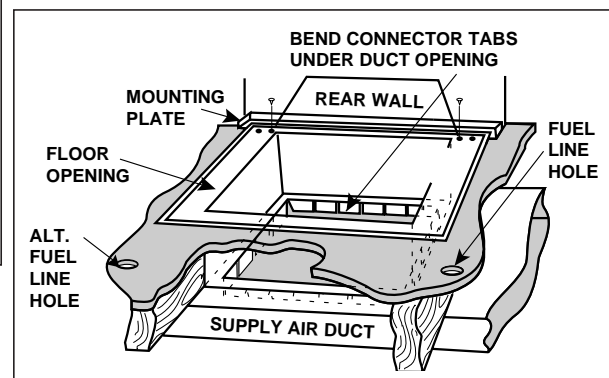

Figure 9. Duct Connector
- Place duct connector through the floor opening with bottom tabs extending through the duct opening. (See Figure 9)